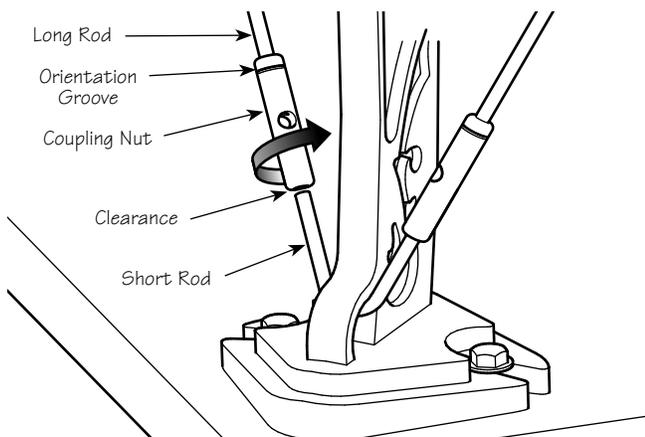

Figure 13: Note orientation of coupling nuts.
Starting the coupling nuts can be somewhat difficult due to the rigidity of tension rods. The easiest method we have found is to thread one of the coupling nuts onto a long rod end, advancing it until the mating short rod end just clears the nuts. Align the short rod end to engage with the nut, turning it such that the left-hand thread on the short rod just engages one to two turns (counterclockwise as shown in **Figure 13**). Repeat the process to start the other three coupling nuts. Getting pairs of coupling nuts to engage may require tightening them simultaneously. You may also have to apply a little force to align and engage the coupling nuts with the tension rods.
*Note: The coupling nuts work like turnbuckles; they have left- and right-hand threads. Ensure that each nut is oriented with the groove as shown in **Figure 13** to have the proper threads engaging.*